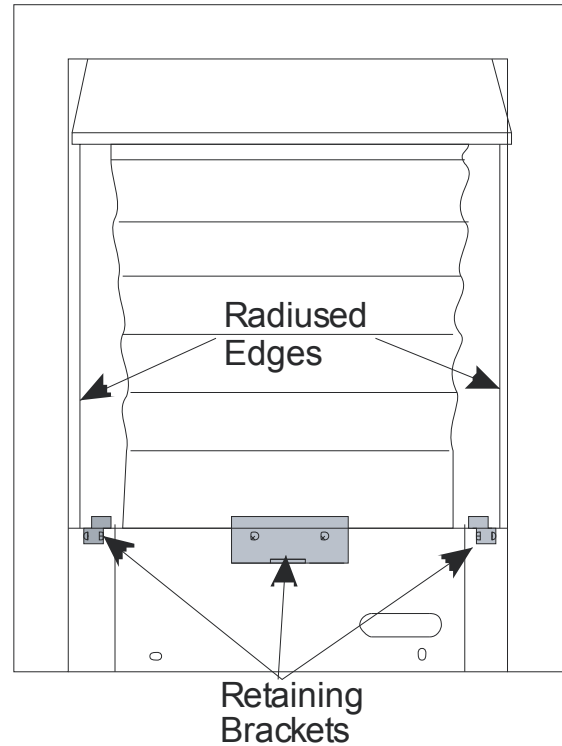

Figure 81
5. Refit in reverse order ensuring that the radiused front edges on the side panels are facing away from the flange of the firebox (see **Figure 81**). Also ensure that the top edge of the rear ceramic engages into the top retaining fold in the firebox.